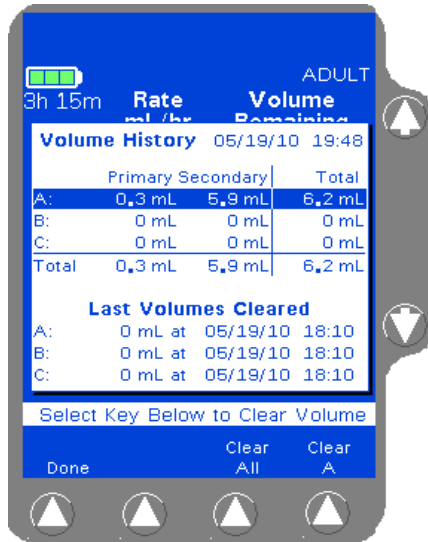

Figure 4-84 Volume History Screen
1. Press the **Volume History** key to display the Volume History screen (Figure 4-84).